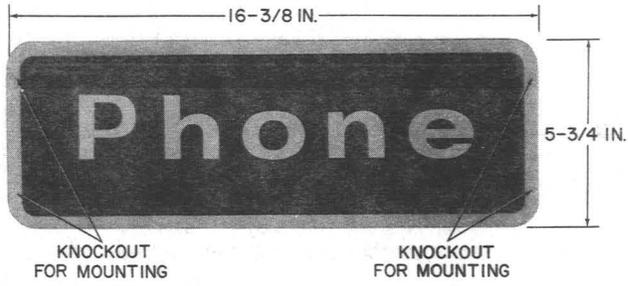

Fig. 21—KS-20125, List 1 Sign
(a) KS-20125, List 1 sign (Fig. 21):
**3.13** These signs may be mounted on flat surfaces or perpendicular to a wall (Fig. 21 or 22).